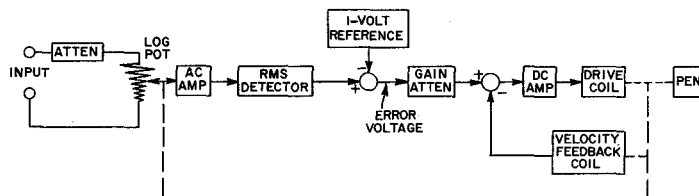

Figure 1.2. Block diagram of recorder.
**1.2 GENERAL DESCRIPTION.** (See Figure 1.2.) The Type 1521-B is a servo-type recorder. The input signal is fed through an input step attenuator to a potentiometer which is automatically positioned to maintain a constant 1-mv ac signal at the wiper arm output. This output voltage is amplified and then rectified by a quasi-rms detector (refer to paragraph 4.3). The detector's dc output voltage is compared with a 1-volt reference, and the difference (error) voltage is amplified by a dc amplifier. The push-pull output current from the dc amplifier passes through the drive coil, which is suspended in a magnetic field. The interaction between the coil current and the magnetic field moves the wiper arm to reduce the error voltage to zero (null condition), and also positions the pen mounted on the coil assembly. Since potentiometer output is a constant 1 mv at null, the attenuation of the input potentiometer is directly proportional to the level of the input signal. By suitable shaping of the potentiometer, a scale linear in db is achieved.